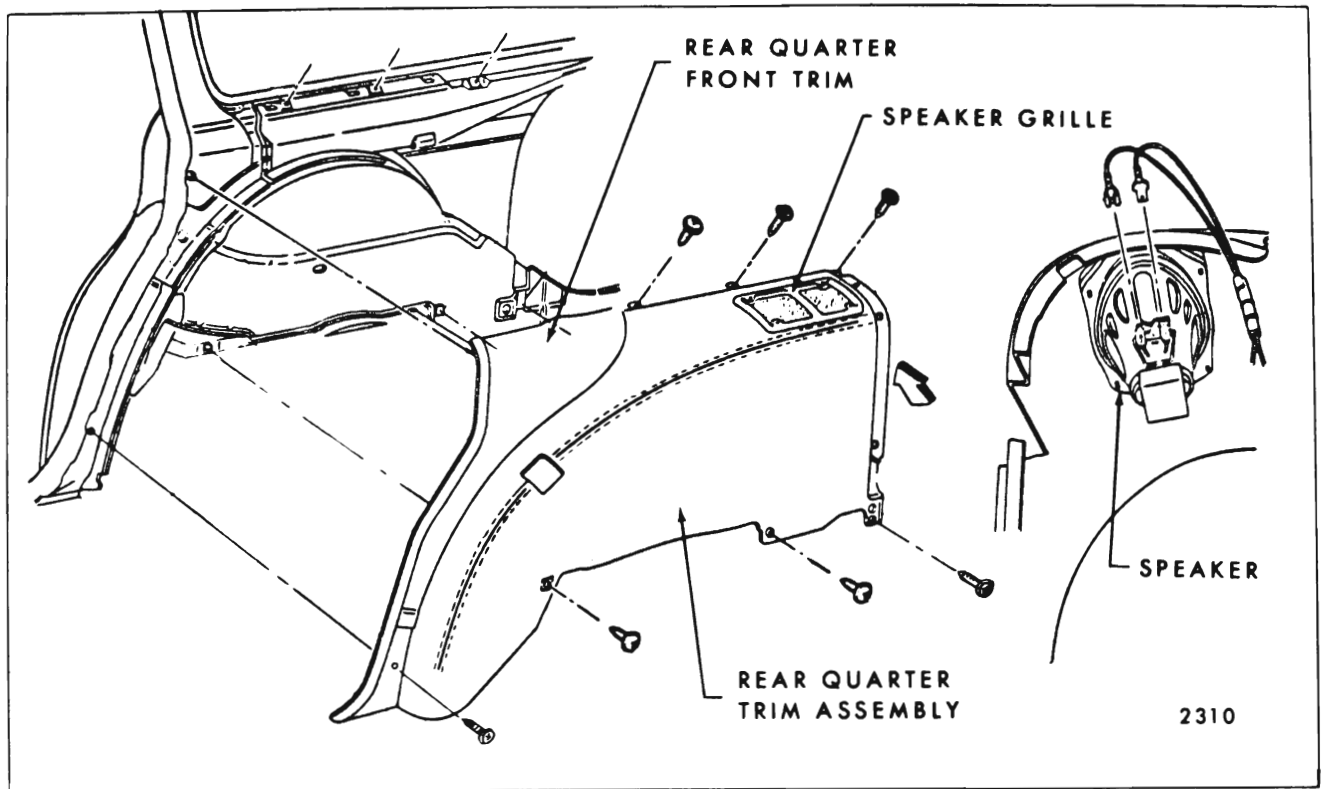

Fig. 14-35—Rear Quarter Trim Panel Right Side - "B" Station Wagons
3. Remove all screws securing trim panel to rear quarter inner panel (Fig. 14-35).
assembly). (Fig. 14-35).